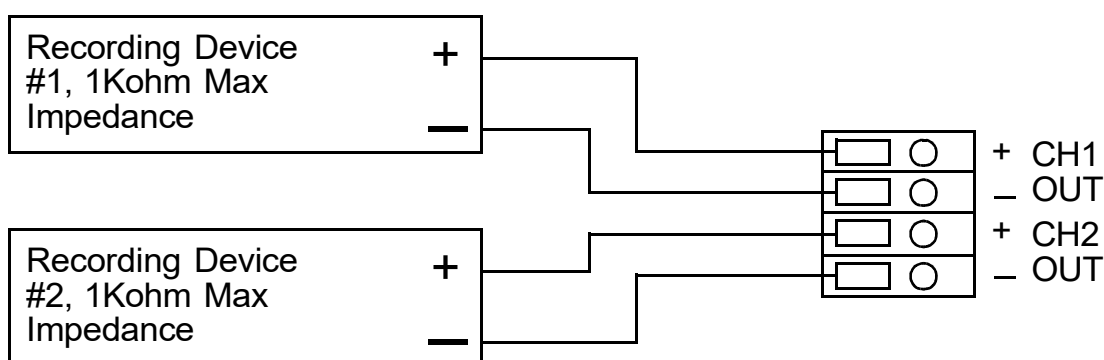

Figure 10. Recorder Output Wiring
- Connect the wires from the recording device to the recorder output terminals as shown in Figure 10.